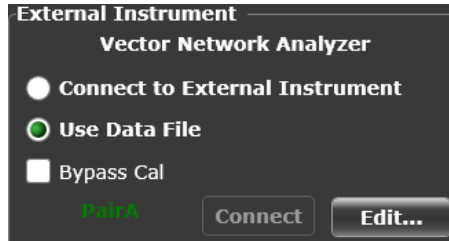

Figure 53 VNA pair information after the test application detects the data file
- Once the 25GBASE-T Ethernet Test Application detects the user file, it is indicated on the **Set Up** tab as shown in Figure 53.